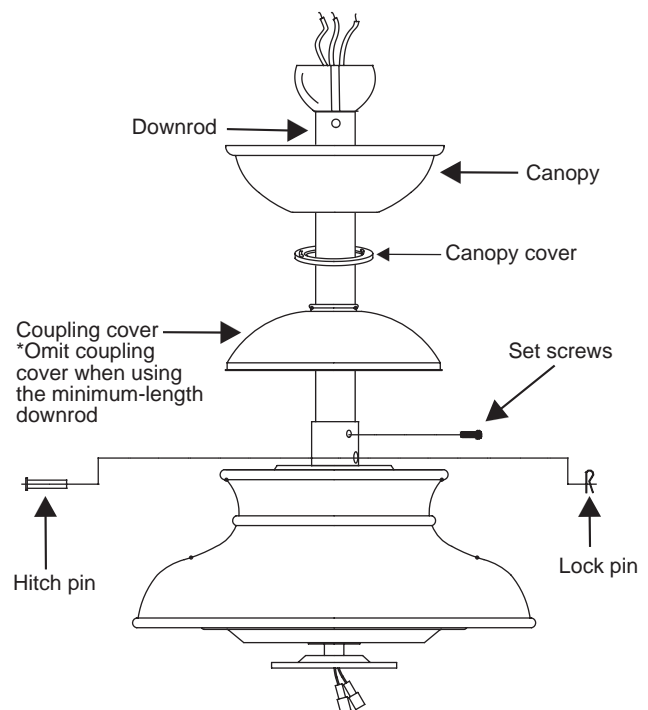

Figure 7
Step 6. Route wires exiting from the top of the fan motor through the coupling cover, canopy cover, canopy and then through the ball / downrod. (Fig. 7)
Step 7. Align the holes at the bottom of the downrod with the holes in the collar on top of the motor housing (Fig.7). Carefully insert the hitch pin through the holes in the collar and downrod. Be careful not to jam the pin against the wiring inside the downrod. Insert the locking pin through the hole near the end of the hitch pin until it snaps into its locked position, as noted in the circle inset of Fig. 7.
Step 8. Tighten two set screws on top of the fan motor firmly. (Fig. 7)